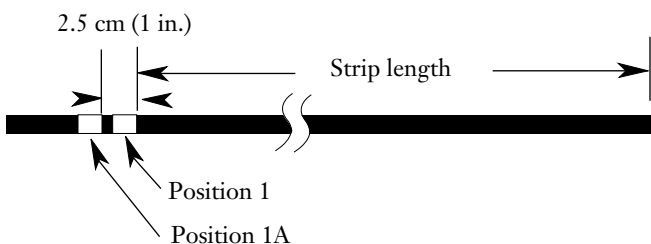

Figure 2
4.2 Mark the cable at the appropriate distance from the cable end with a wrap of tape (Position 1 in Figure 2).
4.3 Position another wrap of tape 2.5 cm (1 in.) from "Position 1" for later placement of a grounding clip ("Position 1A" in Figure 2).